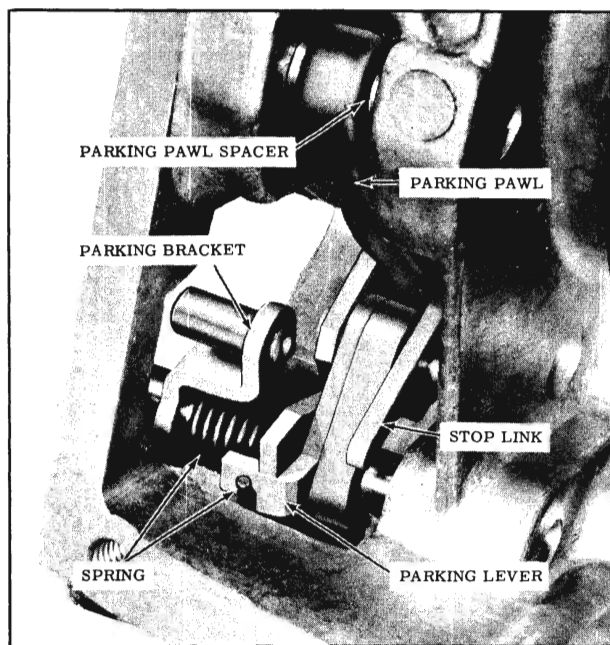
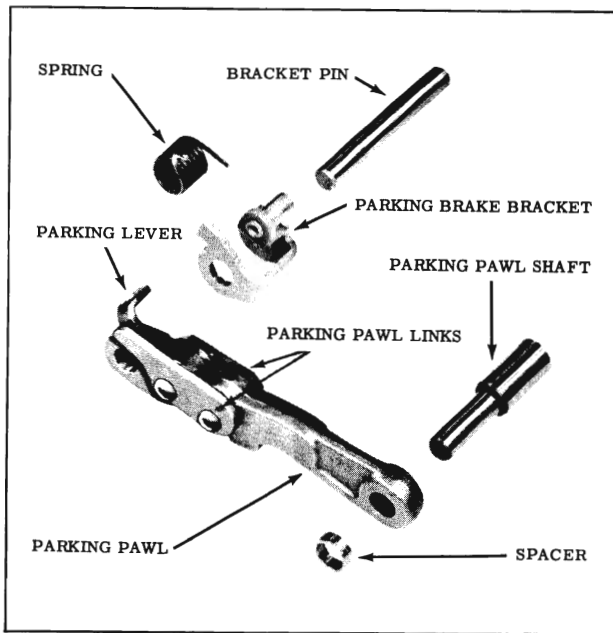

Fig. 3-49 Parking Pawl Linkage
Fig. 3-50 Parking Pawl Assembly
1. While holding parking brake link stop against parking bracket pin, unhook spring from parking lever assembly. (Fig. 3-49 and Fig. 3-50)